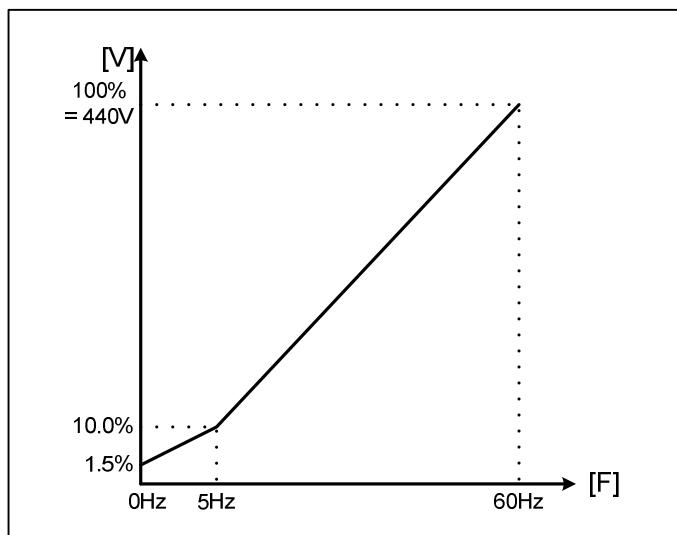

Figure 7.4-3 V/F pattern user setting example
► Refer to Figure 7.4-3 if you want to adjust the output rated voltage (V) or the rated frequency (F) of your own accord